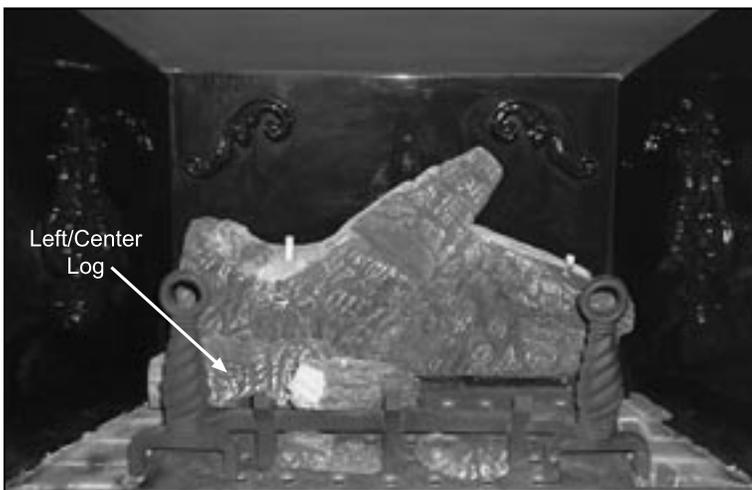

Figure 40: Second Stage Log Set Installation.
Figure 40: Shows the left/center log in place. The **left/center** log is placed on the other two (2) pins connected to the burner pan and the straight part rests on the grate connecting the andirons. There are notches on the bottom of the left/center log to help position the log correctly.